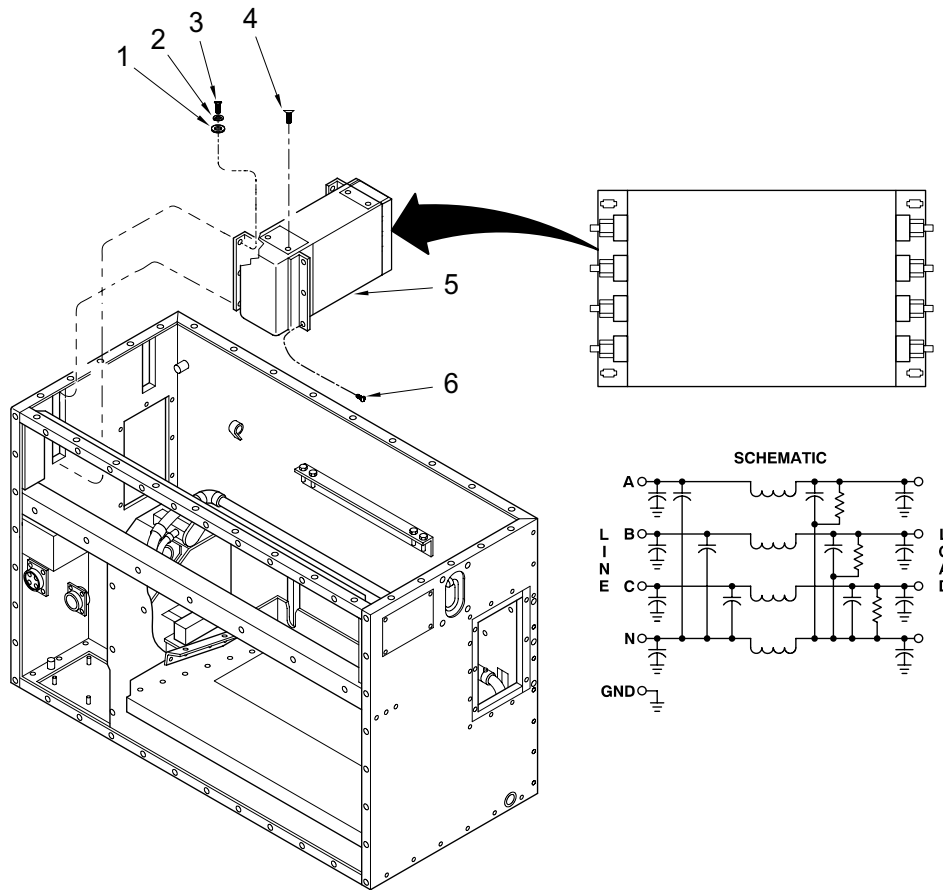

Figure 4. FILTER RADIO FREQUENCY INTERFERENCE (EMI).
1. Check the radio frequency filter housing (5) for physical damage such as dents, punctures, cuts, and ruptured seams. Replace if damaged. See Figure 4.
2. Remove screws (4) securing covers on input and output ends of the EMI filter.
4. Remove mounting screws (3), lockwashers (2), and flat washers (1) securing the EMI filter to the evaporator assembly housing. See Figure 4.
2. Install mounting screws (3), lockwashers (2) and flat washers (1) to secure the EMI filter to the evaporator housing assembly. See Figure 4.